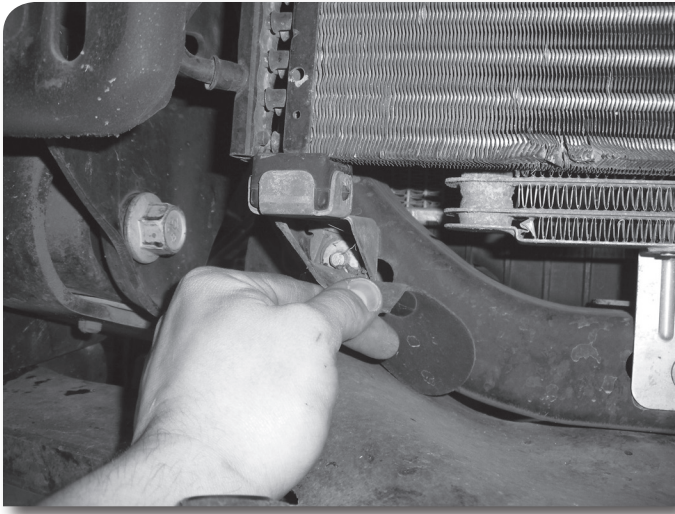

Figure 5
10. Loosen but do not remove all four leaf spring mounting bolts. On the front, the A/C condenser brackets will need to be removed to gain access to the bolt. **Figure 5** Remove the brackets from the core support and save along with the mounting bolts.